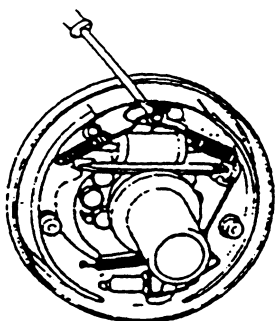

Fig.2-13
(2) Remove return springs of two shoes. See Fig.2-13.